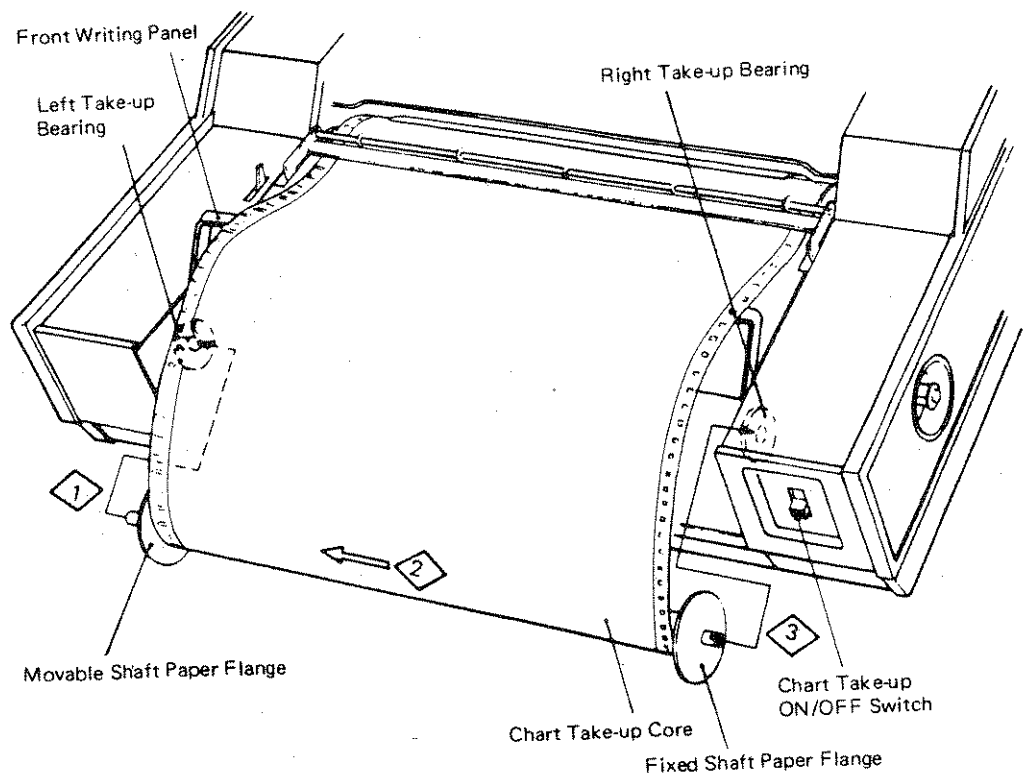

Fig. 5.3 Chart Take-up (Option)
- D. Open the front writing panel (chart take-up cover) as shown in Fig. 5.3.